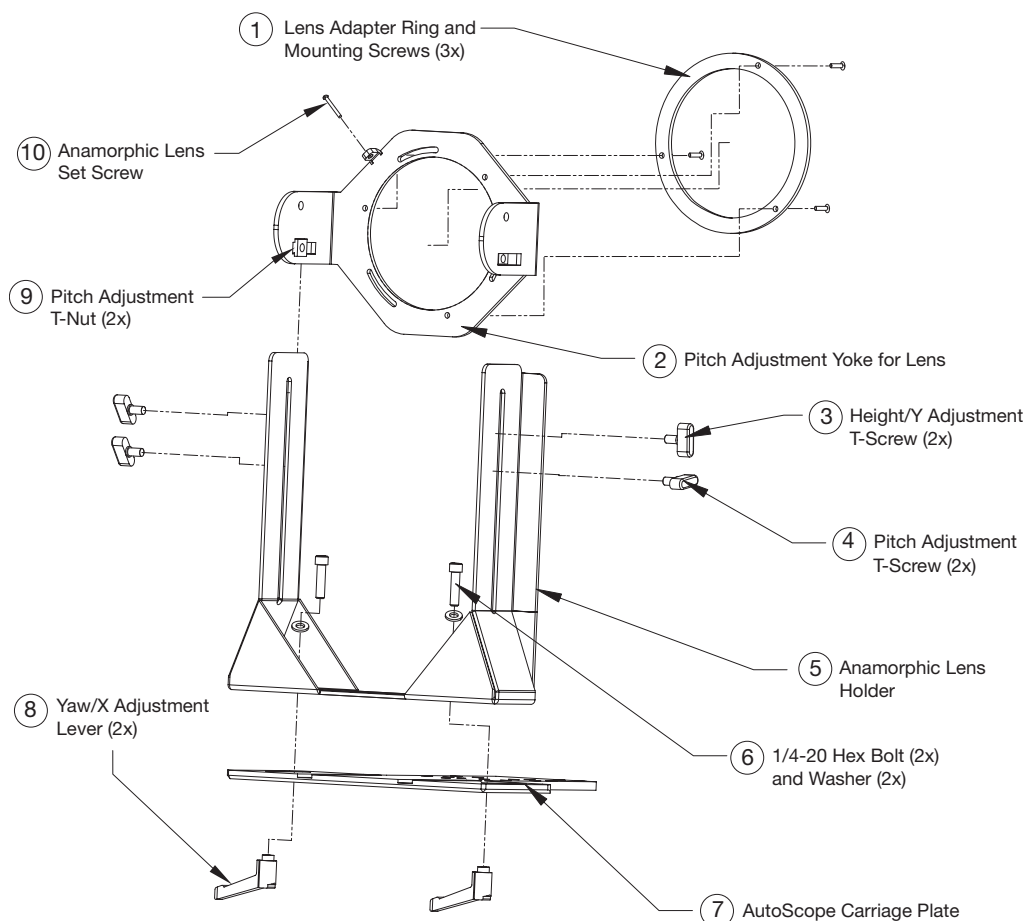

Figure 3-27. Anamorphic Lens Mounting Assembly - Exploded View
The SC-1 Anamorphic lens mount kit consists of everything shown in Figure 3-27. Some components shipped with your projector may differ slightly from what is shown in these instructions. If any items are missing or damaged, please contact your Runco dealer or Runco Customer Service at (800) 23-RUNCO.